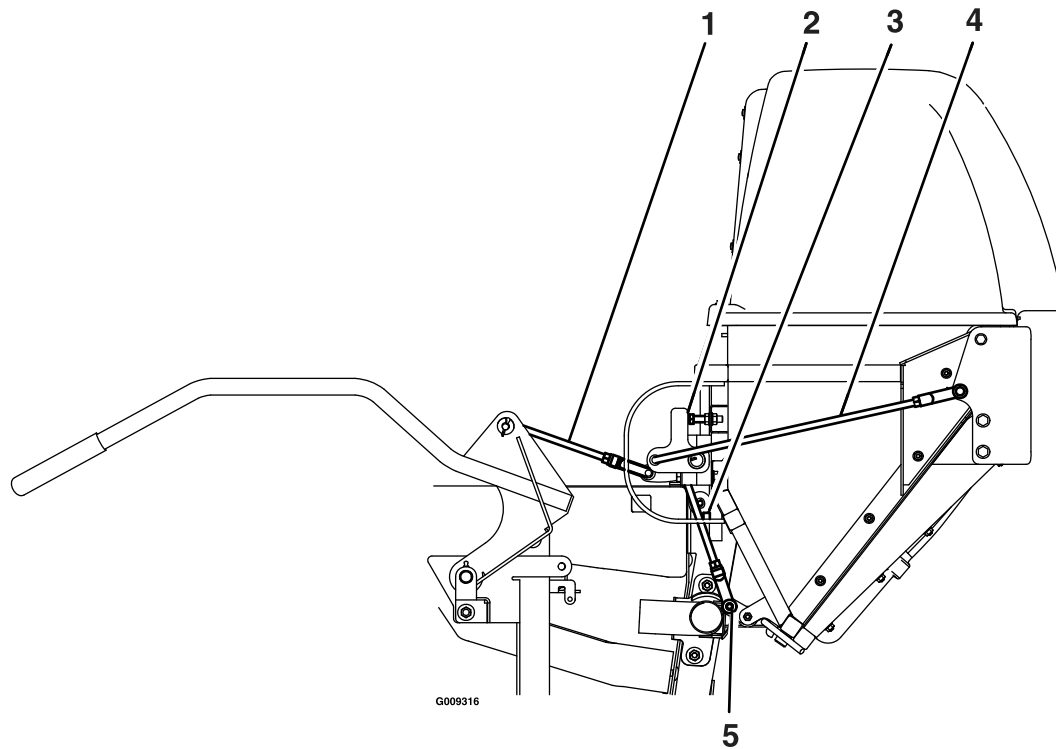

Figure 26
- Door closing:** The closing of the door is controlled by the two hinge links and the two stop screws (see Figure 26). The stop screws should be adjusted so that both will be contacted when the contacting arm is straight up and down. With the stop screws adjusted, the length of the hinge links can be changed to provide complete closing of the door, and reasonable force on the handle to latch or unlatch the door. Lengthen the links to reduce the force. Shorten the links to increase the force. With the door closed, both links should be slightly tight to minimize rattling.
- Door opening:** After adjusting the hinge links for door closing, the handle link can be adjusted to obtain maximum door opening (see Figure 26). Lengthen the link to open the door farther. Shorten the link to open the door less. The maximum door opening is limited by the contacting arm hitting the stop. This stop is non adjustable, and prevents over opening damage from occurring to the linkage.
- Latches:** Once the open and closed positions have been set, the latches can be adjusted (see Figure 26). With the door closed, the latch link should be set so that the latch plate completely engages and contacts the latch rod welded to the door. The latch plates should not be tight against the latch rod. They should easily “wobble”.